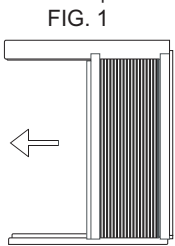

FIG. 1
- A. Hold the side Panel in one hand and gently pull back the center to free the open end. See FIG. 1.